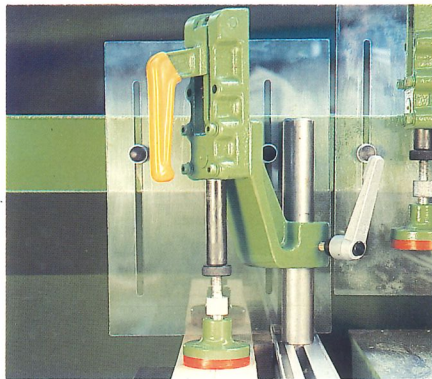

Fig 1
- Quick release manual clamp, capable of holding multiple components at once, on each table — Fig 1